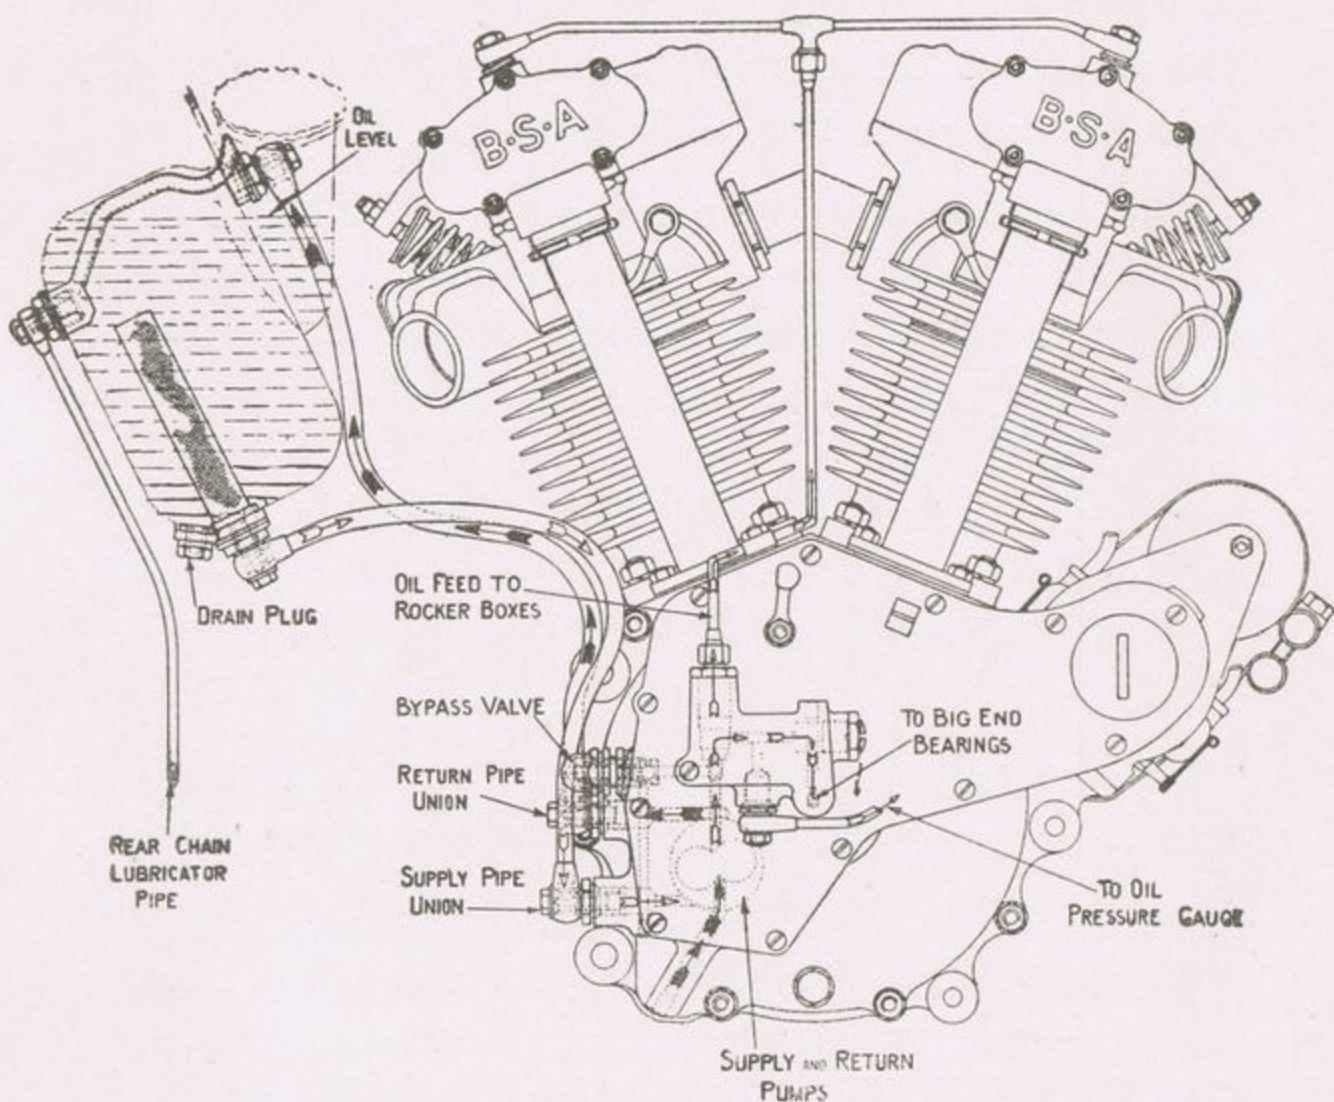

Fig. 6.
**“DRY SUMP” SYSTEM** (Fig. 6). The oil container is separate and the gear type pump is driven from the timing side mainshaft by worm gearing.